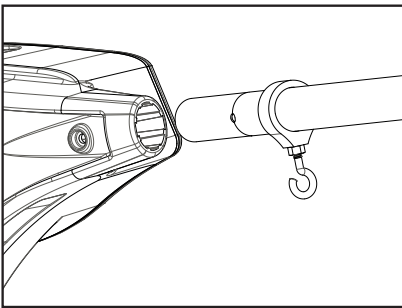
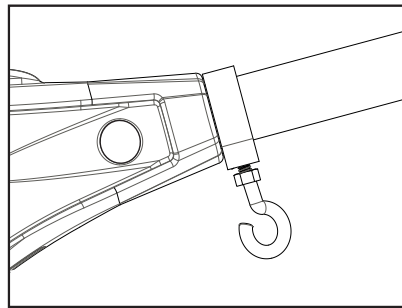

Figure 3
Figure 4
3. Insert boom with ball hook collar assembly into frame (Figure 3) and line up holes in boom with holes in frame (Figure 4).